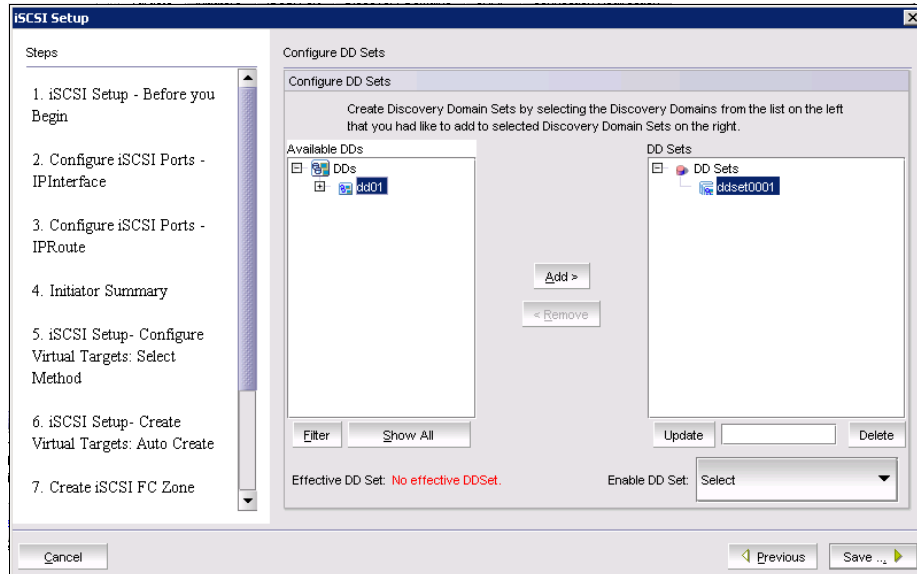

Figure 11-35 Add DD dd001 to DDSet ddset001
12. Add the DD into the DD Set by selecting both **dd001** and **ddset001** and clicking the **Add** button, as shown in Figure 11-35.